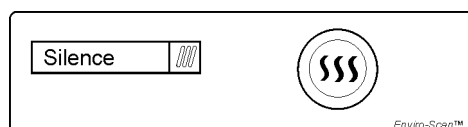

Figure 8-1. Sterilization Cycle Initiation Button
2. Press and hold the Sterilization Cycle initiation button on the control panel (Figure 8-1) for approximately 3 seconds until it lights.